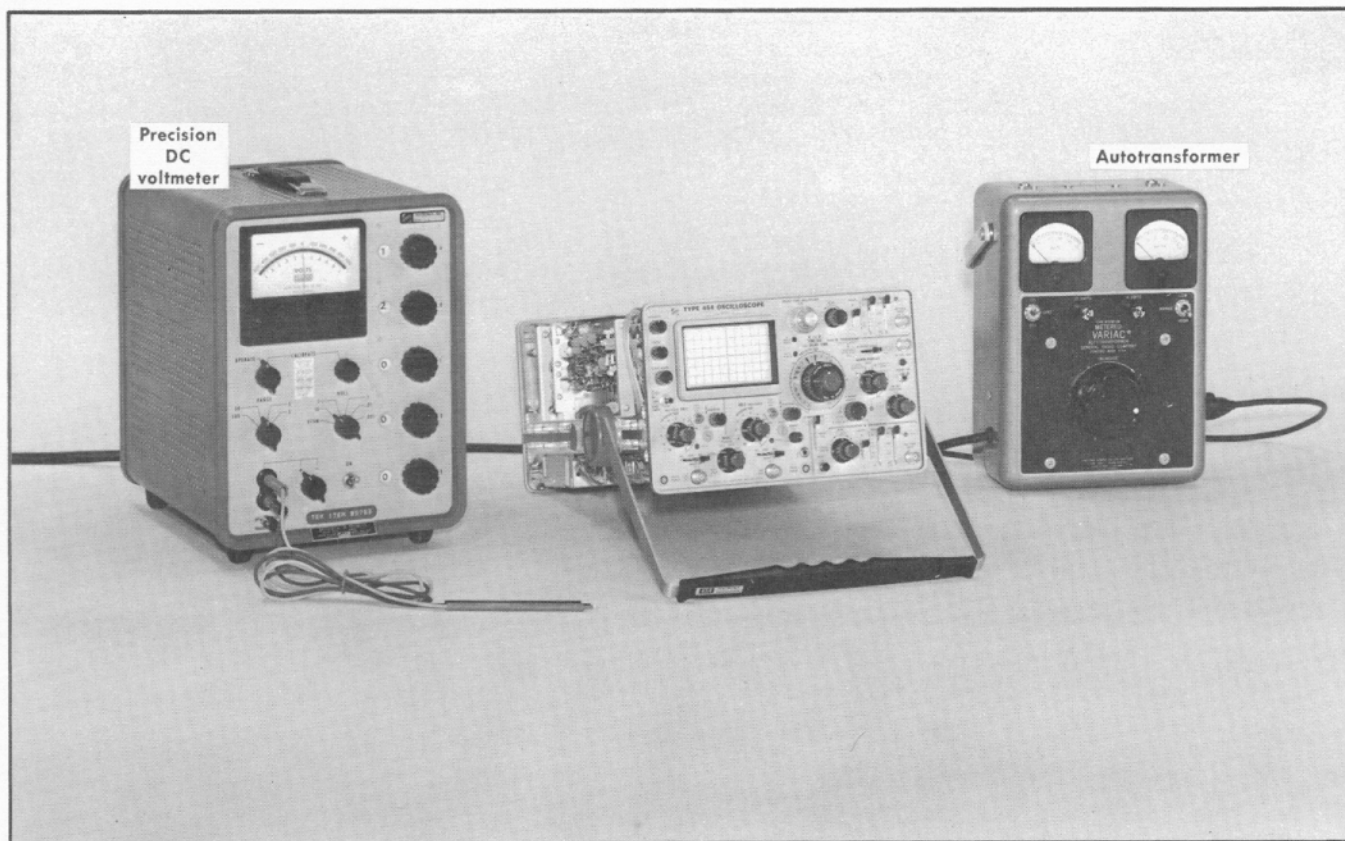

Fig. 6-3. Initial test equipment setup for steps 1 through 6.
1. Adjust —12-Volt Power Supply ①
- a. Test equipment setup is shown in Fig. 6-3.